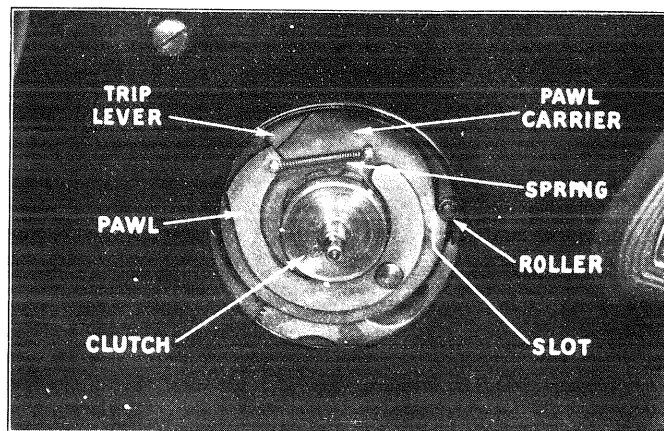

Figure 15—Proper Timing Position
Check the position of the trip lever and roller at this time to see that they are approximately as shown in Figure 15. If the various parts are not in their proper relation, the mechanism should be retimed.
- (d) Lower the pawl carrier into mesh with the gears so that the trip lever is touching the end of the pawl as shown in Figure 15, when the cable lever roller is engaged in the slot on the side of the pawl carrier as shown.
- (14) **Removing Motor Board**—Should it be necessary to remove the motor board from the mechanism for replacement of any of the parts, the following procedure should be used: